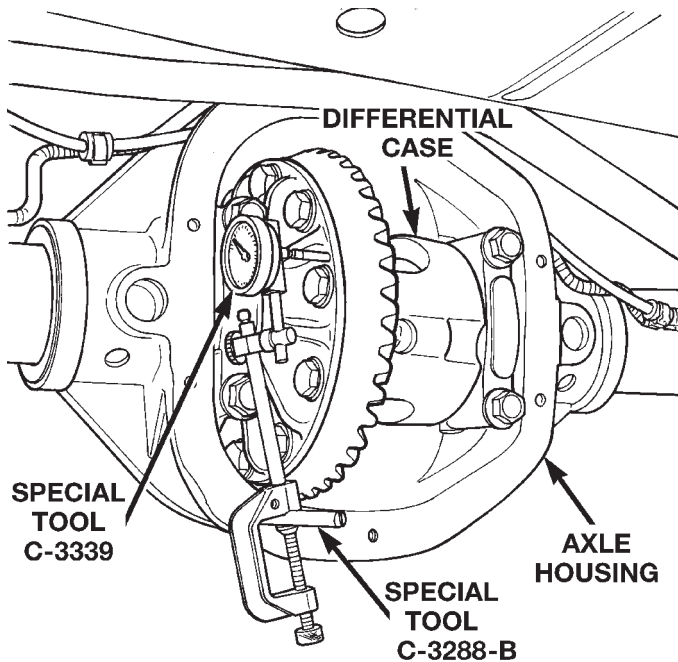

Fig. 68 Differential Side Play Measurement
- (8) Thread guide stud C-3288-B into rear cover bolt hole below ring gear (Fig. 68).
- (9) Attach a dial indicator C-3339 to Guide Stud C-3288-B. Position the dial indicator plunger on a flat surface between the ring gear bolt heads (Fig. 68).
- (21) Position the dial indicator plunger on a flat surface between the ring gear bolt heads. (Fig. 68).